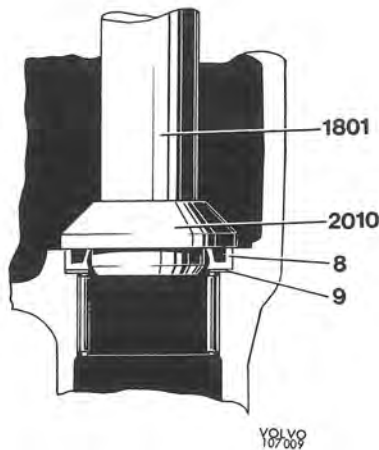

Fig. 6-82. Installing sealing ring
9. Clamp the housing (4) with the neck facing downwards. Place the washer (8) in the housing. Fit the sealing ring (9) with the sealing lip facing upwards. Use tools 2010 and 1801, see Fig. 6-82.
10. Fit on the oiled O-ring (28) and install the other